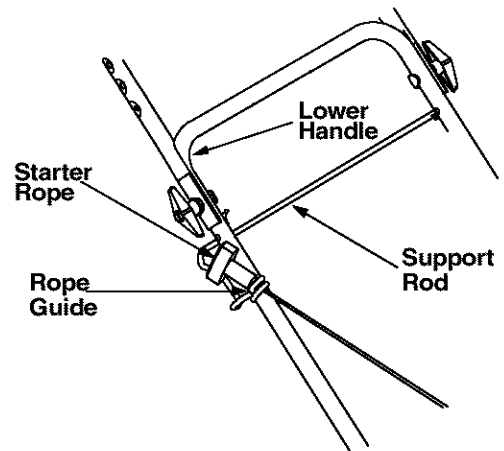

Figure 8
- The rope guide, which is connected to the support rod, is located on the right side of the lower handle. See Figure 8.
- With the spark plug wire disconnected and grounded, hold the blade control handle against the upper handle, and pull the starter rope out of the engine. Release the blade control handle. Slip the starter rope into the rope guide. See Figure 8.